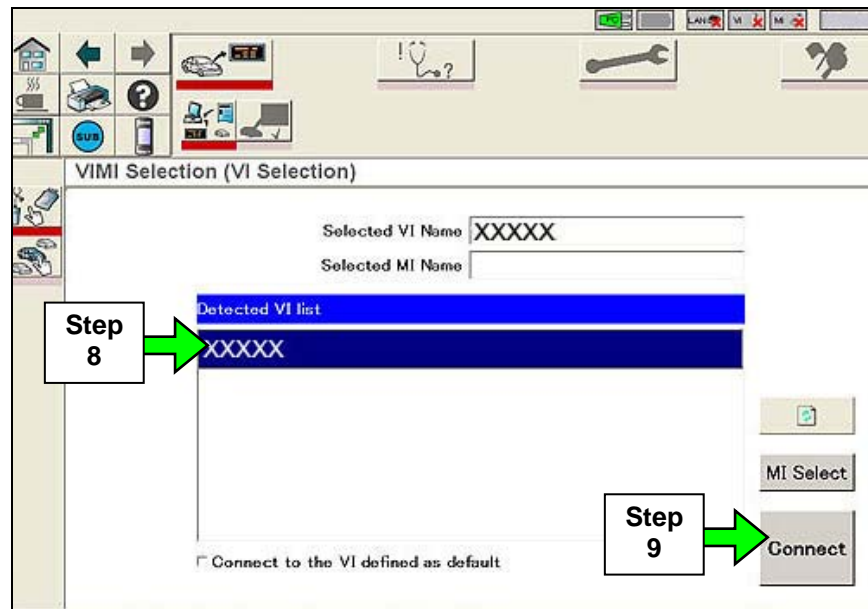

Figure 1
8. Select the detected VI from the list. (See Figure 1.)
9. Select **Connect**. (See Figure 1.)